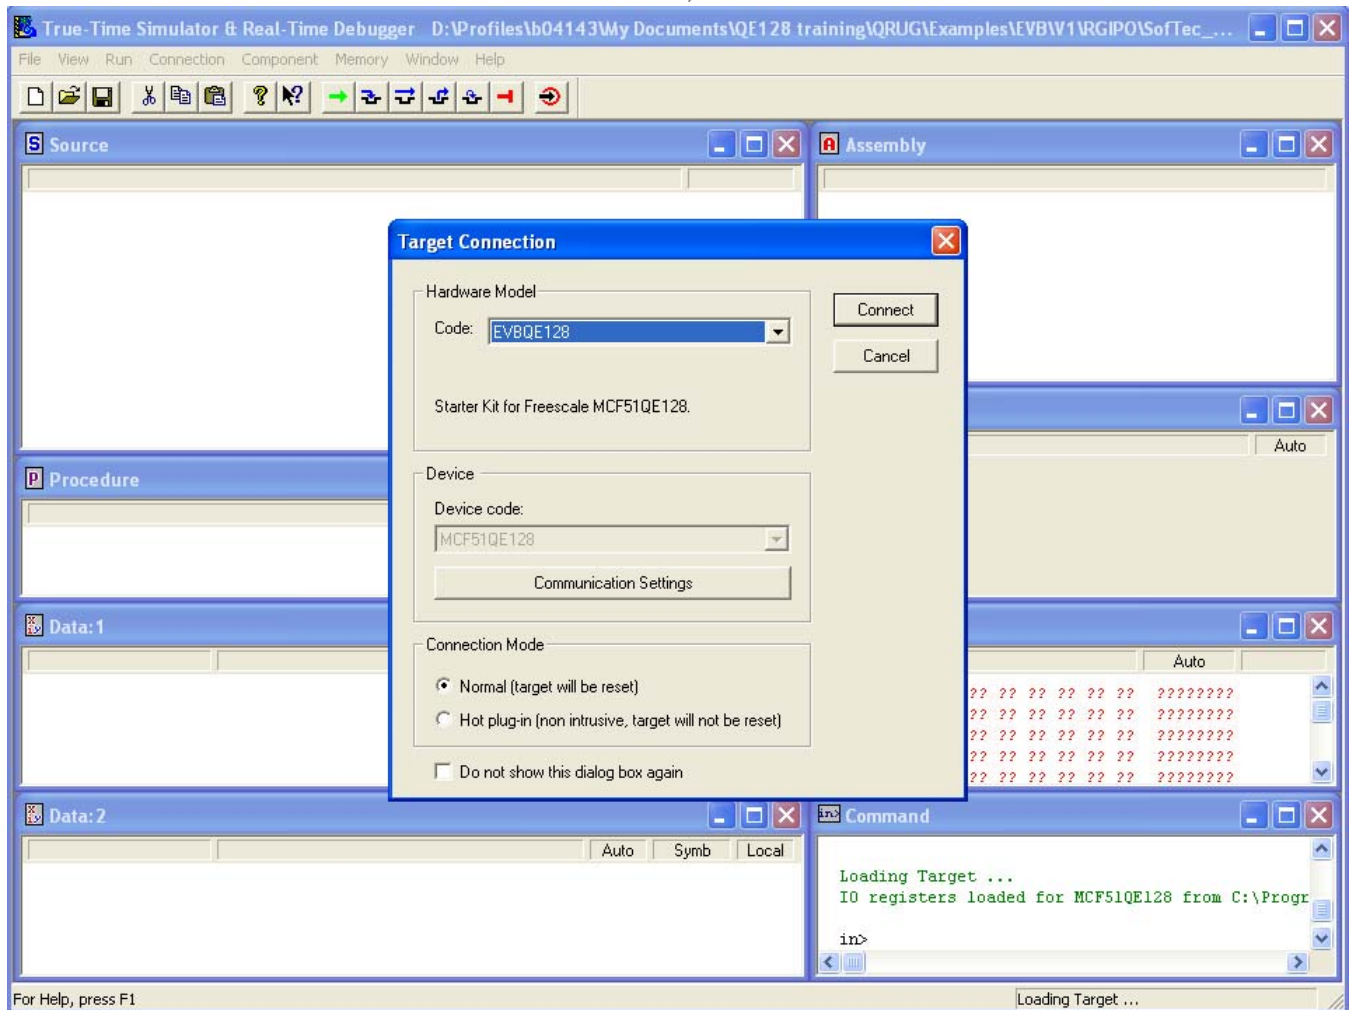

Figure 3-9. Connect Option
11. After the debug command is executed a window pops up (see Figure 3-9), select the EVBQE128 hardware model and then click on the Connect option.